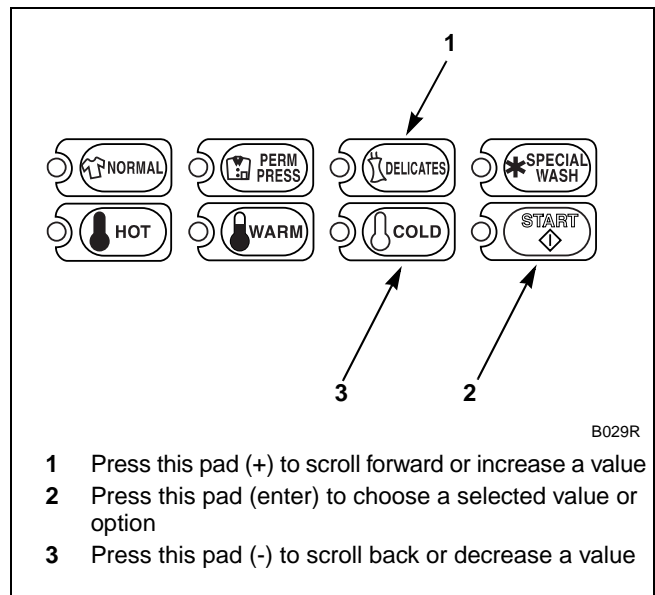

Figure 74
5. Press the DELICATES (+) or the COLD (-) keypad to increase or decrease the current extract value displayed in the VFD to the desired extract value. Refer to *Figure 74*.